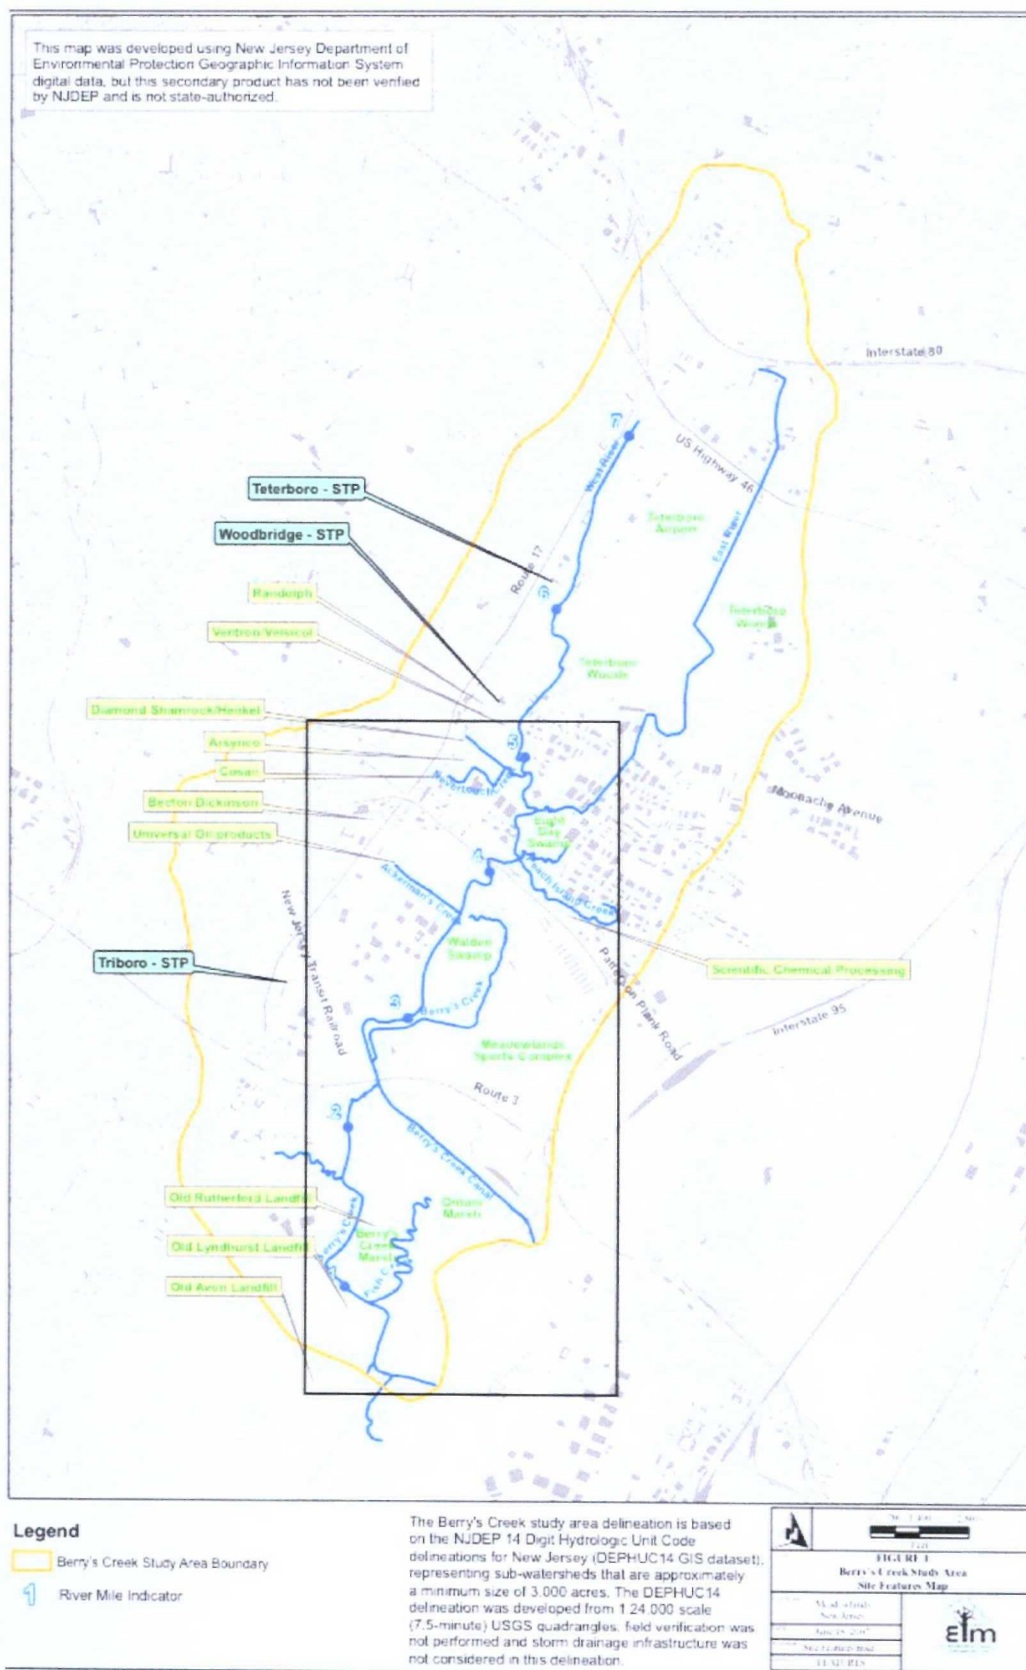

Figure 1. The outline of survey area includes navigable waterways within in the BCSA and the black box.
The scope of work for the geophysical mapping project within the BCSA includes: (1) bathymetry, (2) sub-bottom profiling, (3) side-scan imaging, (4) magnetometer surveying, (5) geophysical sampling, (6) Quality Assurance/Quality Control and (7) reporting and deliverables. The areas to be surveyed are the navigable areas outlined in Figures 1 and 2. The work plan discusses deliverables and schedule.